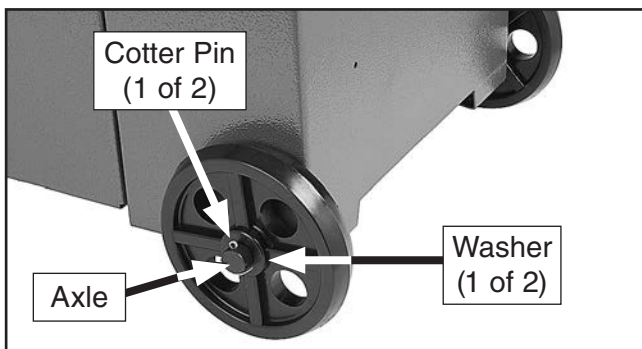

Figure 11. Wheels secured with cotter pin.
- Slide one flat washer onto the axle, followed by a wheel and another washer. Secure with cotter pins, as shown in **Figure 11**.